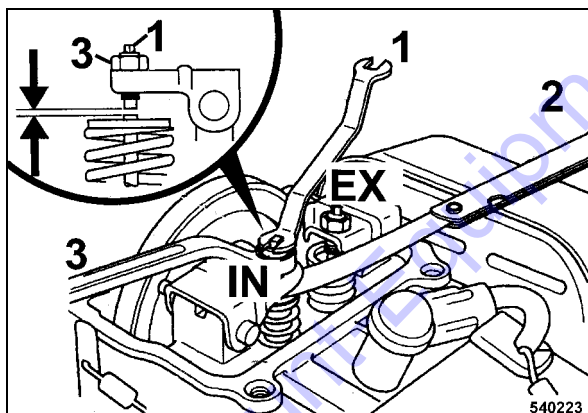

Fig. 48
- Measure the valve clearance with a feeler gauge (2) (Fig. 48).
- To adjust the valve hold the valve adjustment screw (1) and loosen locking nut (3).